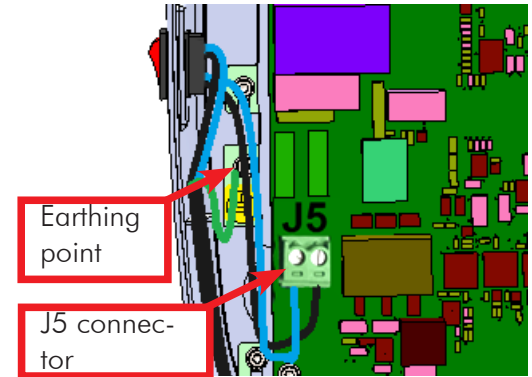

Figure 90
- Connect the wires(Pin terminals) of the switch to the J5 connector on the power board using a Jewel screw driver as shown in Figure 90(Live=Blue & Neutral=Black).
- Connect the GND(ring terminal) wire to the Earthing point (If removed) on the power board plate located just below the switch by fixing the M3X6 HSHC screw using 2.5 mm allen key as shown in the Figure 90.